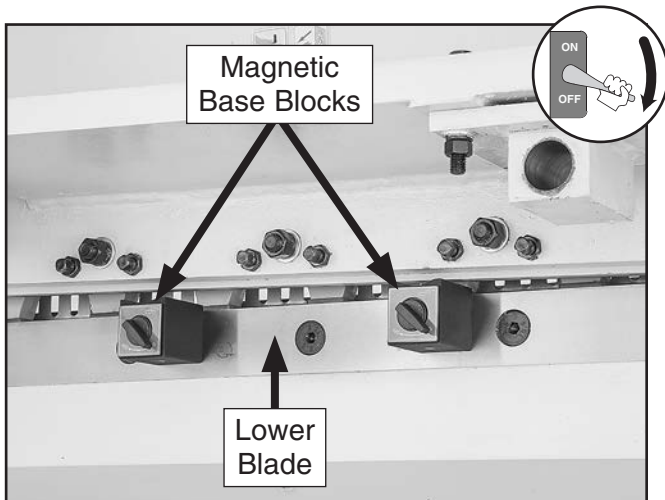

Figure 65. Magnetic base blocks used to check squareness of work stops.
3. Place (2) magnetic base blocks 12" apart on right side of lower blade (see **Figure 65**).
3. Place (2) magnetic base blocks 12" apart on left side of lower blade (see **Figure 65**).
6. If right work stop does not align with square, loosen (2) hex bolts securing work stop to table and adjust work stop to align with square. Tighten hex bolts.